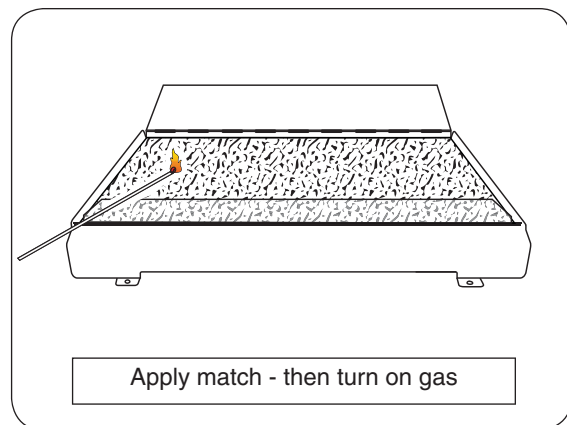

Fig. 9-1
4. Lay a lighted long-stem match on the surface of the decorative media near the burner (**do not hold the match in your hand**) or use a lighted long-necked butane lighter (Fig. 9-1).